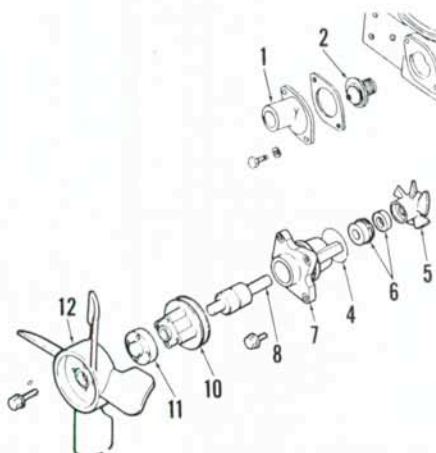

Fig. 142—Exploded view of water pump used on 1100, 1110, 1200 and 1300 models. Thermostat (2) is also shown.
To disassemble, pull drive pulley (10—Fig. 142) off pump shaft. Support pump housing, then press shaft and bearing assembly (8) forward out of impeller (5) and pump housing. Remove the seal assembly (6).